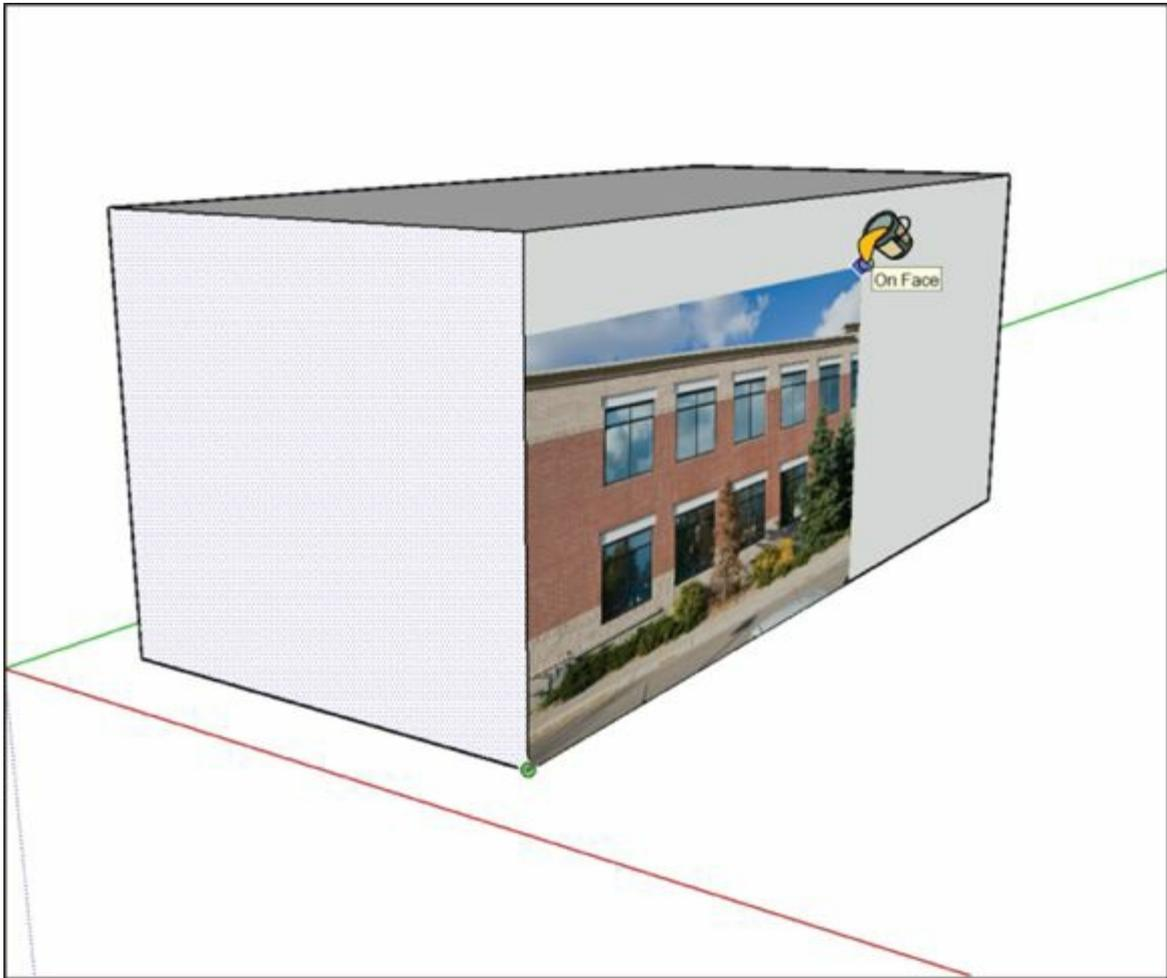

FIGURE 8-2: Click once to locate the lower-left corner of the image you're using as a texture. Click again to locate the upper-right corner.
5. **Click once in the lower-left corner of the face you want to paint.** (See Figure 8-2.)
6. **Click somewhere else on the face you're painting.** (See Figure 8-2.)